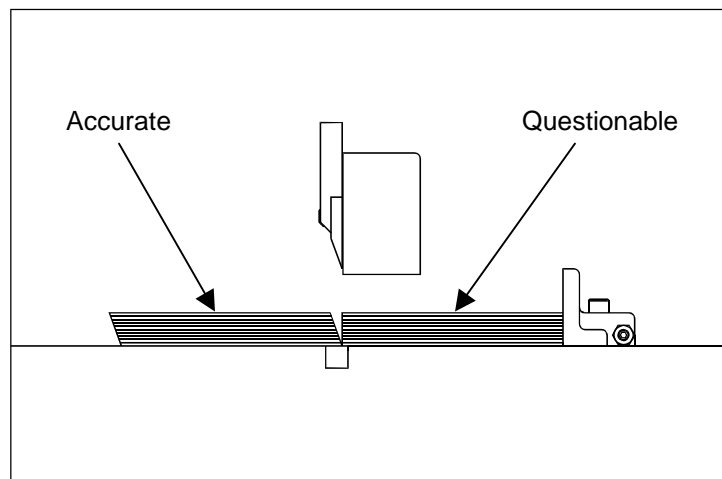

Figure 7
3. Take a sheet from the center of each lift and compare them to each other. The cutter will always space accurately between cuts (in this case the 10" and 5" cuts) whether the overall accuracy is correct or not (Figure 7). The front stack will be a true 5", but the paper left against the backgauge will not be if the backgauge position is inaccurate.